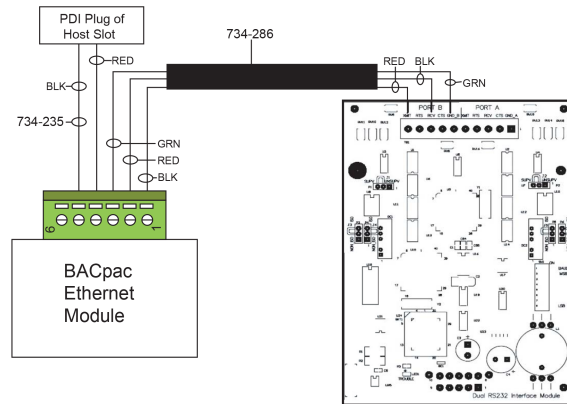

Figure 8: BACpac Ethernet Module Interconnect
The power cable is 14 in. long and the RS-232 cable is 18 in. long. As shown in Figure 8 and detailed in the following steps, the power cable is connected to the terminal strip on the module and plugged into the PDI plug associated with the block. Make sure that the RS-232 module is installed close enough for the data harness to reach between the two assemblies.
The RS-232 signal connects between the Ethernet module large terminal strip terminals 1, 2 and 3 and the RS-232 module RCV, TXD and GND terminals of port B. See Figure 8.
3. Connect the power harness to the module terminal block per Figure 8 (the red wire to terminal 4 and the black wire to terminal 5).
4. Connect the RS-232 harness to the module terminal block per Figure 8 (the red wire to terminal #1, the black wire to terminal #2 and green wire to terminal #3).